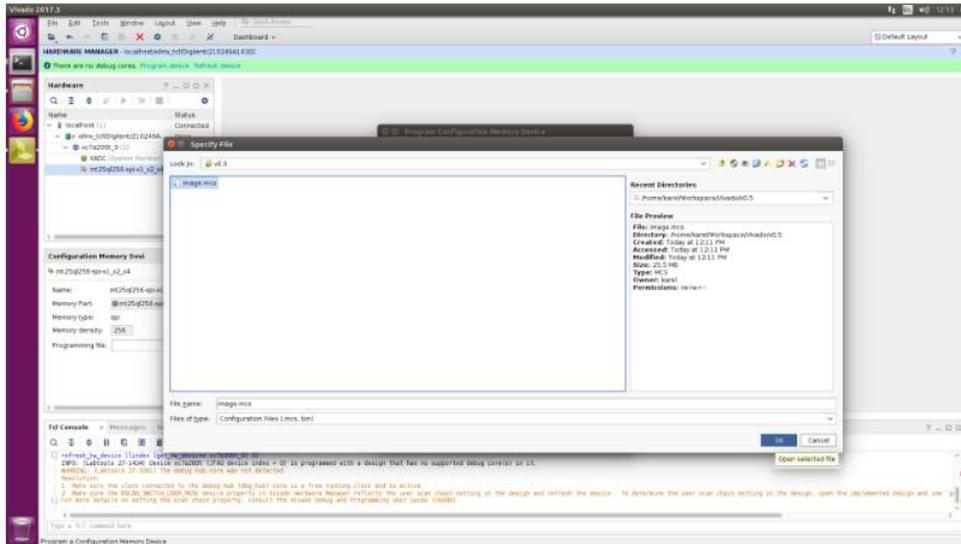

Figure 56: Specify file [sc21]
11. The explorer window “Specify File” opens. Select the memory configuration file (in this example “home/karel/Workspace/Vivado/v0.5/image.mcs”) and click “OK” (Figure 56, STMA-69240);